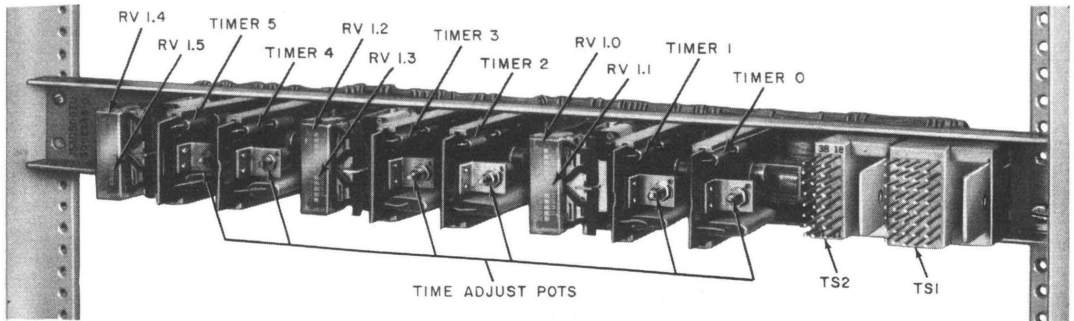
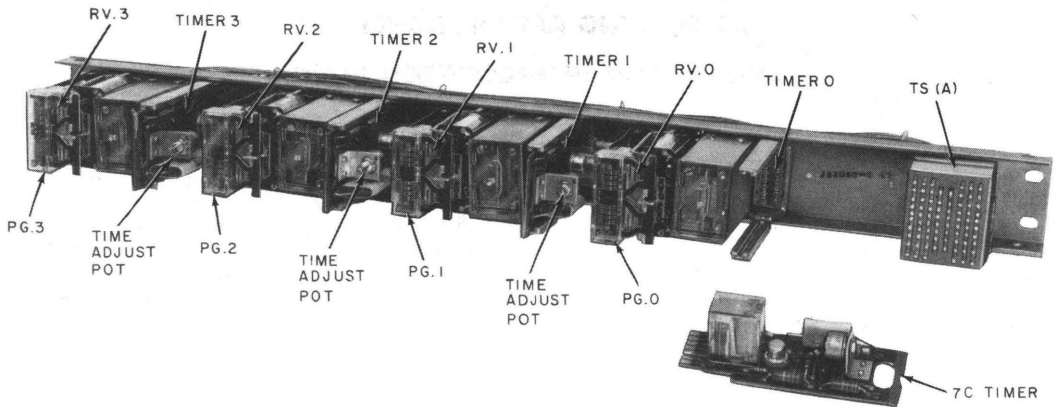

Fig. 1—J53050G, List 1 (MD) Interconnecting Unit Equipped With 7C Timers
Fig. 2—J53050G, List 2 Interconnecting Unit Equipped With 7C Timers
1.04 One J53050G, List 1 (MD) interconnecting unit (IU), Fig. 1, equipped with six 7C timers provides six Connecting Arrangements CTD. One J53050G, List 2 IU (Fig. 2) equipped with four 7C timers provides four Connecting Arrangements CTD. (The 7C timers must be ordered separately—one per connecting arrangement.)